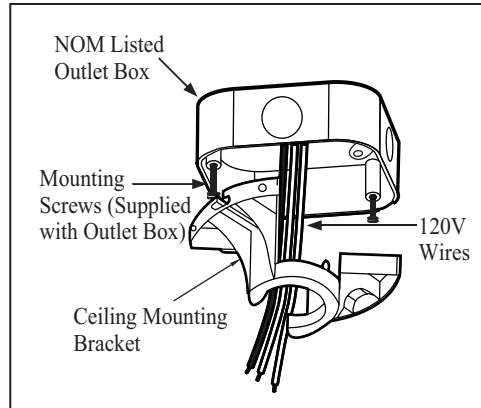
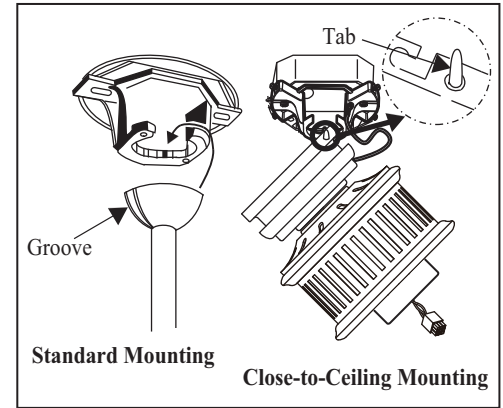

Figure 12
Figure 13
1. Pass the 120-volt supply wires through the center hole in the mounting bracket. (Figure 12)
2. Attach the mounting bracket on the outlet box by sliding the mounting bracket over the screws provided with the outlet box. (Figure 12) When using “close-to-ceiling” mounting, it is important that the mounting bracket be level. If necessary, use leveling washers (not included) between the mounting bracket and the outlet box. Note that the flat side of the mounting bracket is toward the outlet box. (Figure 12)
4. Carefully lift the fan assembly up to the ceiling mounting bracket and hang the fan on the tab provided by utilizing one of the holes at the outer rim of the ceiling canopy. (Figure 13) If use standard mounting, seat the hanger ball in the mounting bracket socket. Make sure the tab on the mounting bracket socket is properly seated in the groove in the hanger ball. (Figure 13)
THE TAB AS SHOWN IN FIGURE 13 IS ONLY TO BALANCE THE FAN WHILE ATTACHING WIRING. FAILURE TO HANG AS SHOWN IN FIGURE 12 MAY RESULT IN TAB BREAKING CAUSING THE FAN TO FALL. TAB MUST PASS FROM INSIDE TO OUTSIDE OF CANOPY.